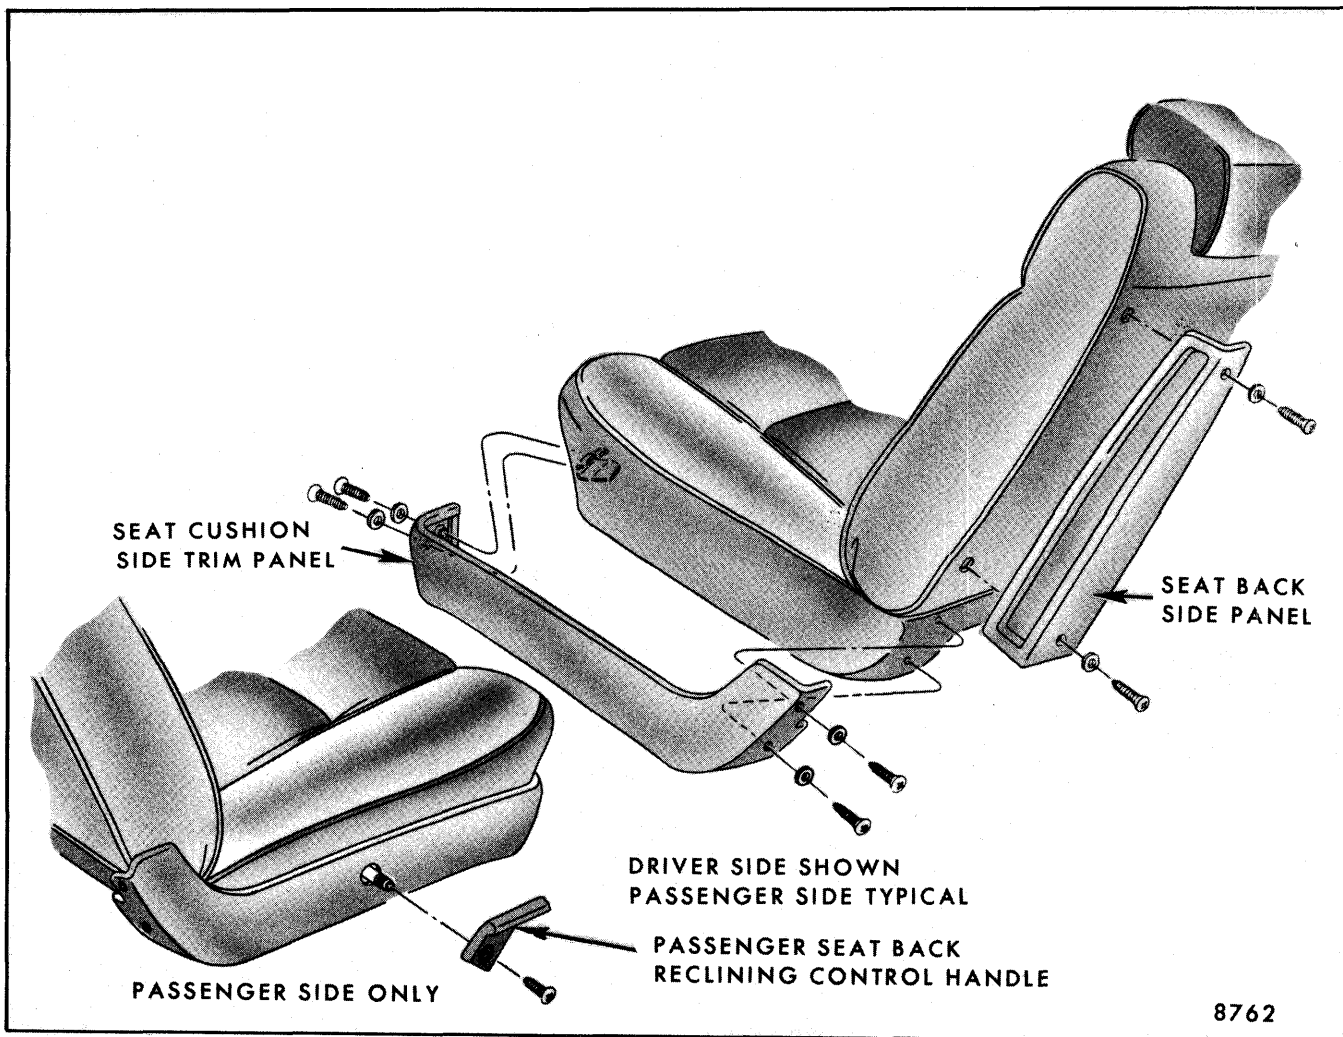

Fig. 9-12-Seat Cushion, Back Panels and Reclining Control Handle
1. Remove seat back side outer cover panel secured by two screws (see Fig. 9-12).
Removal and Installation - Refer to Figs. 9-12 and 9-13
2. Remove reclining control handle (see Fig. 9-12). Detach seat trim side facing from right of seat cushion frame and turn back trim sufficiently to gain access to reclining unit front and rear attaching pin retainers.